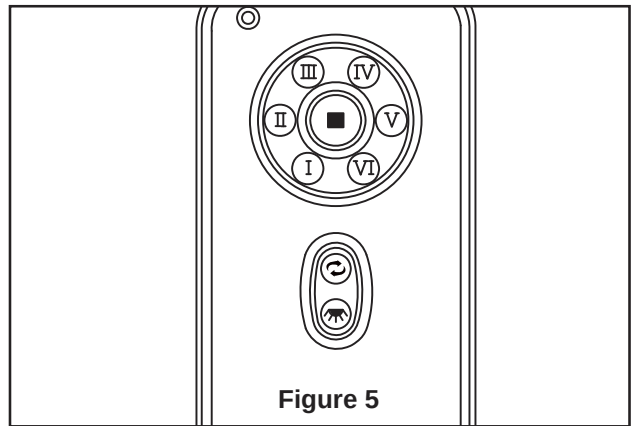

Figure 5
- ☐ 5. Assemble the glass to the LED assembly by twisting in the clockwise direction. Don't over-tighten. (Figure 5)
- : Controls light-Infinite light levels are available by holding the light on/off button (Figure 5).